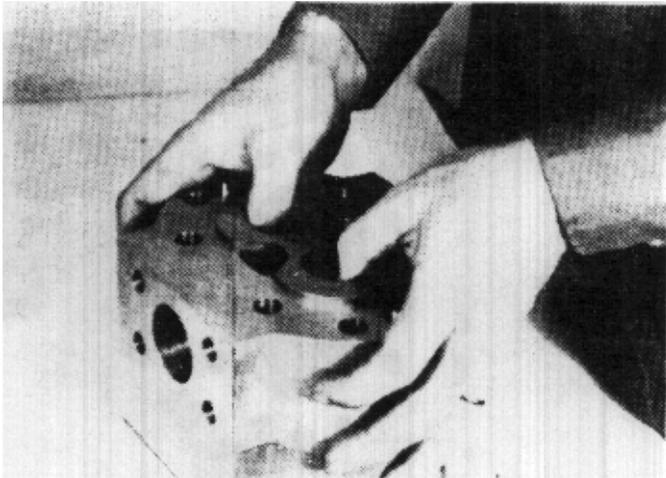

FIGURE 51
12. It will be necessary to remove any burrs from the gear “track-in” in the body (1) before attempting to remove pressure plate (9). After burrs have been removed, the plate can be lifted out. Using thumb and forefinger, lift the pressure plate straight out of the body. Use extreme care in removing this plate as it will bind in the bores of the body if not kept straight during removal (Figure 51).